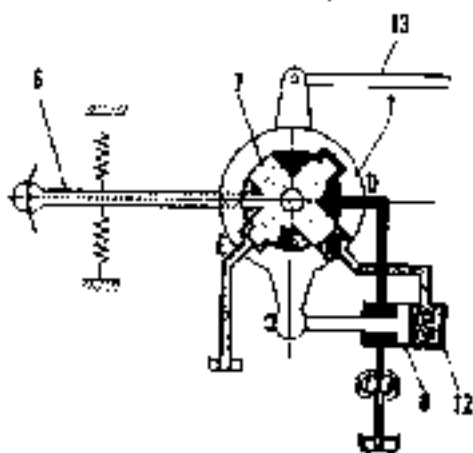

Fig. 2-62
There is a positioning unit on "Hold" position. If the handle (6) is moved to make the valve core (7) turn an angle clockwise as shown in Fig. 2-62, the passage between ports A and C is open. The pressurized oil flows to the bottom of the cylinder (12) to push the piston (8) and valve sleeve (1). Thus the sleeve (1) also an angle turns clockwise, so the linkage (13) makes the changeover valve rod shift some distance. The piston (8) stops immediately because turning of the valve sleeve (1) makes the passage between port A and C close at this time. Just continuously shifting the handle (6) can keep continuous movement.